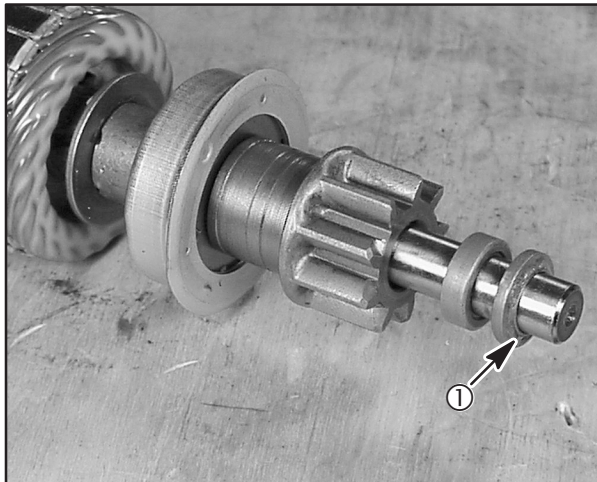

Fig. 41
5. Assemble spacer to armature shaft, Fig. 41.
**NOTE:** Lip (1) on spacer must face bearing in drive end cap.